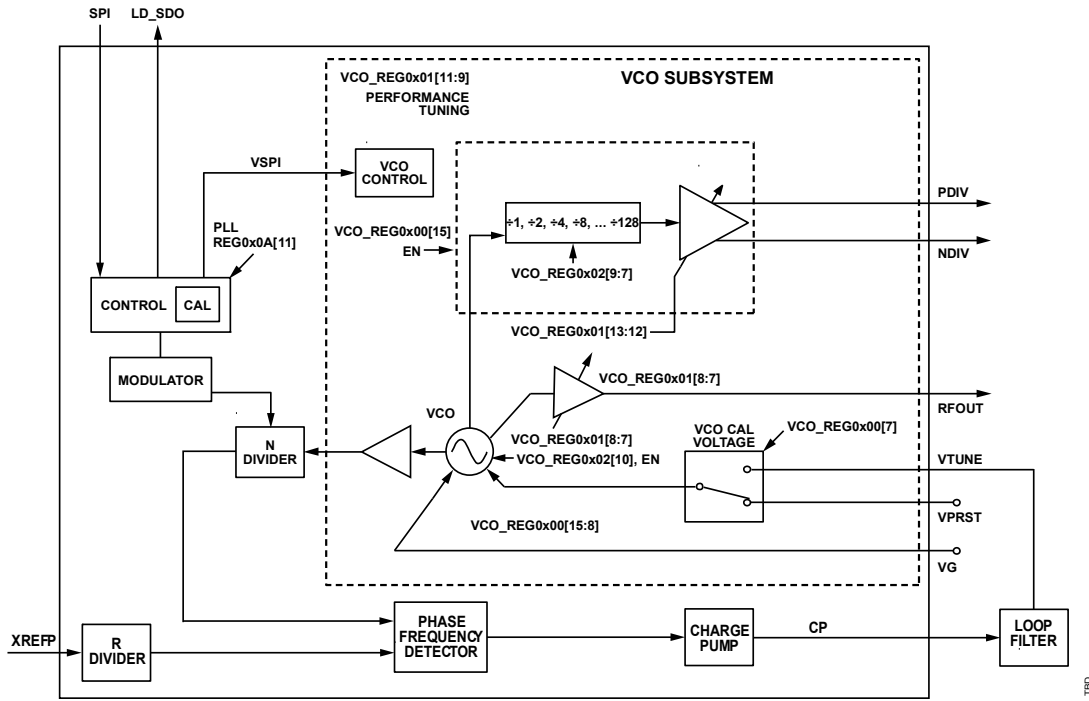

Figure 23. PLL and VCO Subsystems
All modes are VCO register programmable, as shown in Figure 23. One loop filter design can be used for the entire frequency of operation of the ADF5610.
- The VCO SPI register, Register 0x05. This write is required only for manual control of VCO if Register 0x0A[11] = 1, autocalibration is disabled, or to change the VCO output divider value (VCO_REG 0x02). See Figure 23 for more information.